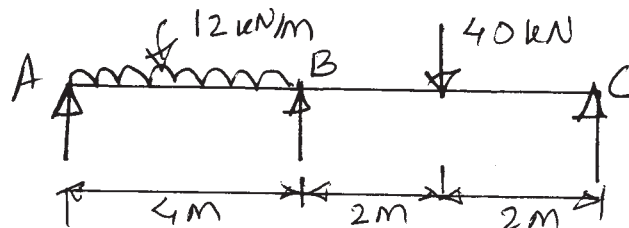

Fig. No. 4
- d) Calculate support moments and draw BMD for a beam as shown in Fig. No. 4 by using moment distribution method.